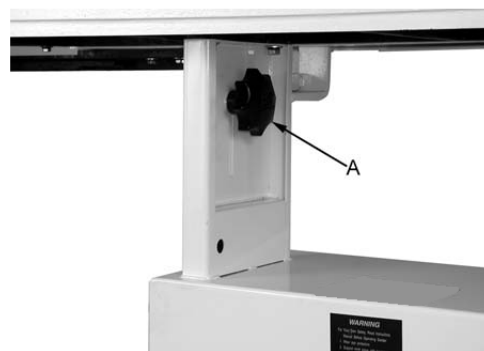

Figure 15
1. Loosen two lock knobs (A, Fig. 15).